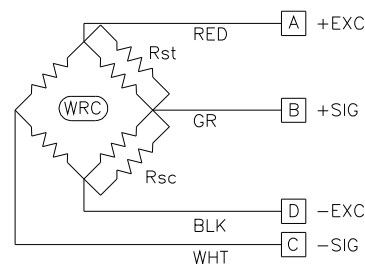

Figure 6 - Shunt Resistor Locations
Shunt calibration simulates the mechanical input to a transducer by unbalancing the bridge with a fixed resistor placed across, or in parallel with, one leg of the bridge. For tension shunt calibration, or +CAL, the shunt resistor ( $R_{st}$ ) is shunted across the +Excitation (A) and +Signal (B) leg of the bridge. For compression shunt calibration, or -CAL, the shunt resistor ( $R_{sc}$ ) is shunted across the -Excitation (D) and +Signal (B) leg of the bridge. Refer to **Figure 6** for shunt resistor locations in the Wheatstone Bridge circuit.